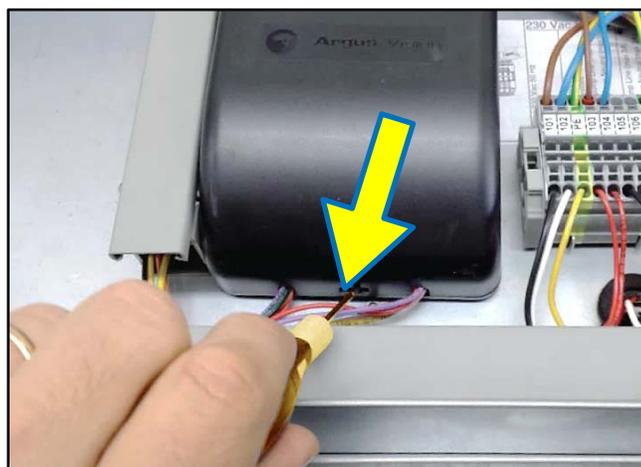

Figure 1-16: Removing Communications Board Cover
3. Using a flat head screwdriver, open the communications board cover (see Figure 1-16).